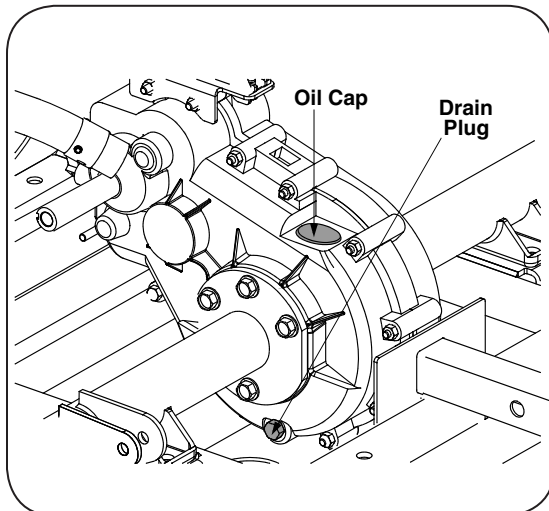

Figure 19
4. Access drain plug through slot on underside of machine and remove plug. See Figure 19.